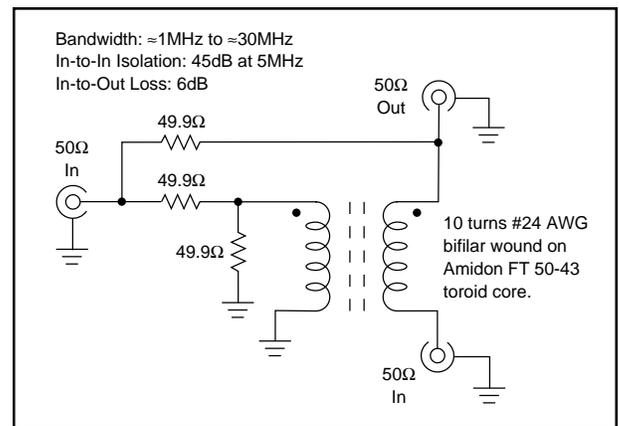

FIGURE 5. Passive Signal Combiner.
7. Two-tone testing will require isolation between test signal generators to prevent IMD generation in the test generator output circuits. A passive (hybrid transformer) signal combiner can also be used (Figure 5) over a range of about 0.1MHz to 30MHz . This combiner’s port-to-port isolation will be $\approx 45\text{dB}$ between signal generators and its input-output insertion loss will be $\approx 6\text{dB}$. Distortion will be better than -85dBc .